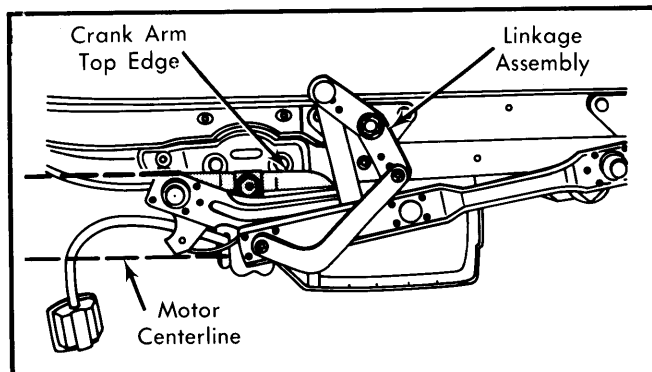

Fig. 1 Installing Motor Crank Arm Nut
**Installation —** Install motor on linkage. Place crank arm on motor shaft. Be sure that top of arm is parallel to motor centerline. See Fig. 1. Tighten shaft nut. Reverse removal procedures to complete installation.